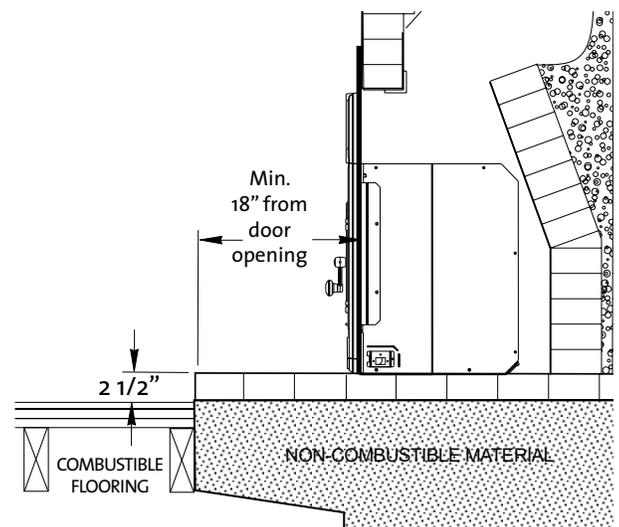

Figure 5. Canada only: Minimum depth with code-approved raised hearth.
b) it is raised a minimum of 2 1/2" and constructed on noncombustible materials in a code-approved masonry fireplace. See fig. 5.